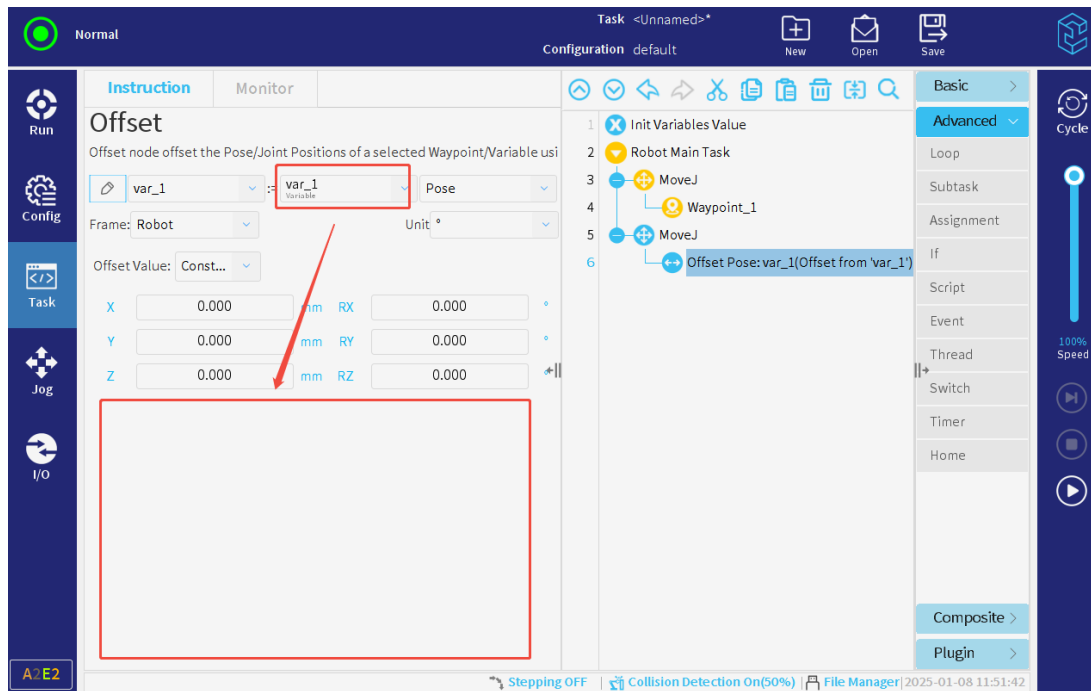

Figure 3-119 : Data Display Interface when Data Source is A Task Variable
- Since the task variable is not a global variable and their data values cannot be obtained when the robot is not in operation, here the data before and after the offset will not be displayed when the data source is a task variable, as shown in **Figure 3-119**.